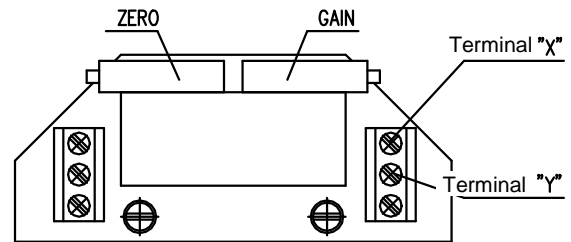

Fig. 7
- Having the set screw of the gear unit wheel released, move the adjustable wheel to a required stage of the range (to the next higher one or a one corresponding to the particular stroke in the given range) according to table 3 and Fig.7. When moving the adjustable wheel, take care to achieve the proper meshing with the gear wheel of the subjected stage, and then tighten the set screw back.